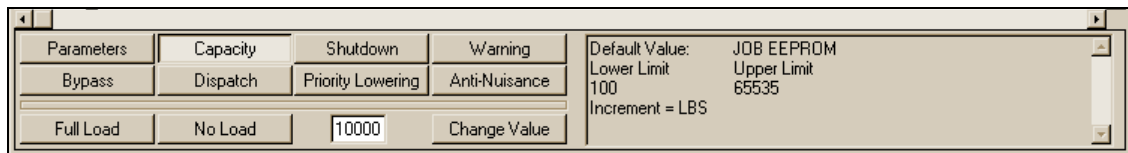

Figure 74
**Load Weigher:** Selecting the **Load weigher** pushbutton on the Feature Bar changes the controls that reside on the Definition Bar so the focus is placed upon the Digital Loadweigher system of the Trafomatic-III / IV elevator control system. Figure 74 shows the Definition Bar as it would appear after the **Load Weigher** pushbutton has been selected.